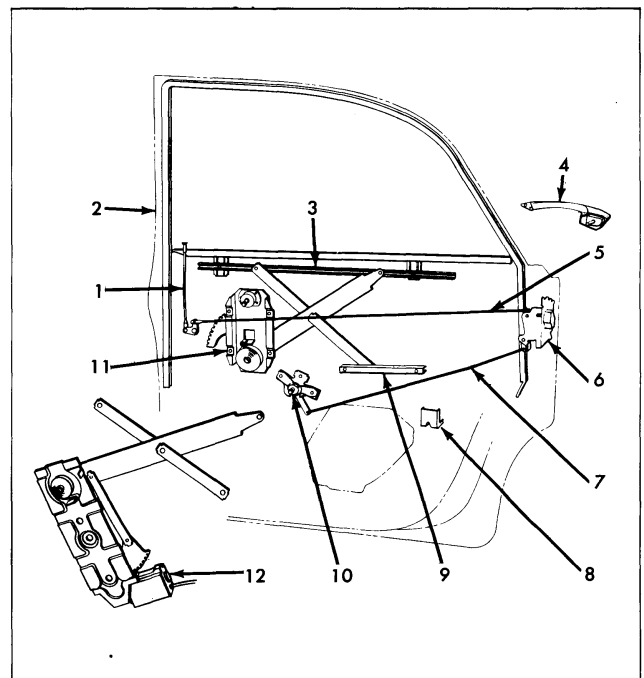

Fig. 3-41 Rear Door - Sedans and Station Wagons
Fig. 3-41 is typical of sedan and station wagon style rear doors with the trim pad and inner panel water deflector removed. This illustration identifies the component parts of the rear door, their relationship and various attaching points.
1. For in and out or up and down adjustment, loosen hinge to door pillar attaching screws, adjust door as required and tighten screws (Fig. 3-41).